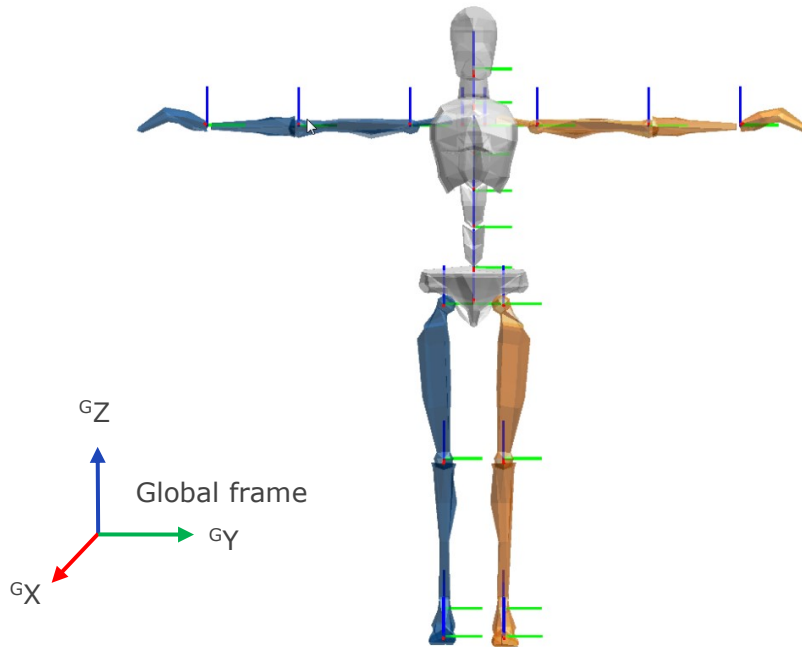

Figure 89: Segment coordinate system at each segment origin, as is used in MVN. Legend: x : red, y : green, z : blue
The axes of each body frame (B) are aligned with this Global reference frame (G) when the subject is standing in the T-pose as shown in Figure 89.
The section <segments> defines all positions (pos_b) of connecting joints (prefixed with a "j") and anatomical landmarks (prefixed with a "p") with respect to origin of that segment (in body frame *B*). The body frame (*B*) of this list of points is defined by Figure 89.